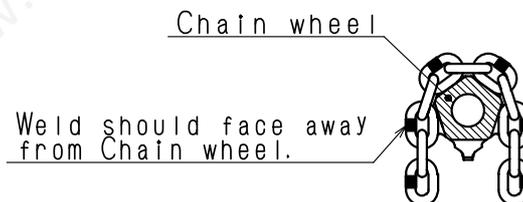

Fig.6
- Check the welds on Load chain are faced away from the center of Chain wheel (See Fig. 6).